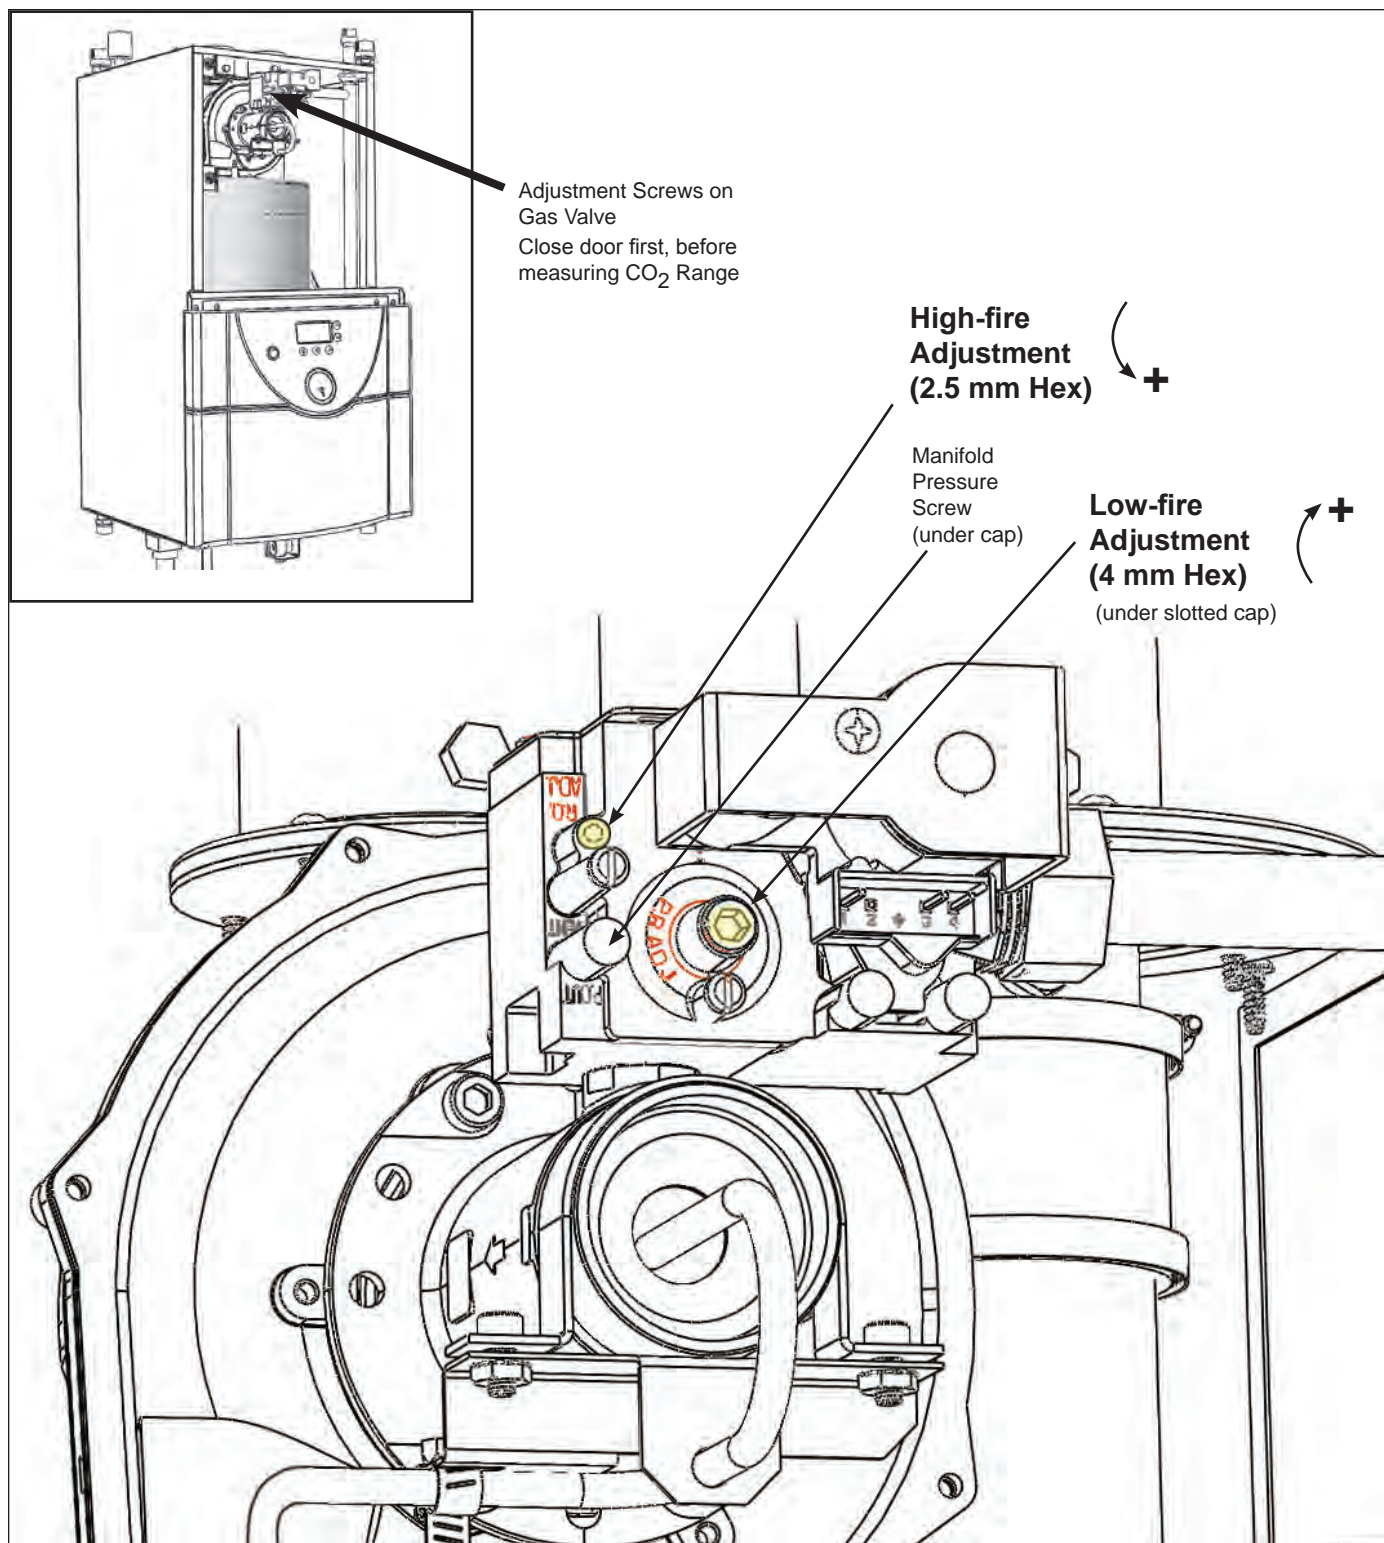

Figure 28. Adjustment Screws and Settings for CO₂
1. Measure the CO₂ in the flue products at high fire. The Mascot LX can be forced to high fire to allow for easier setup. Refer to **Section 8** for instructions on how to access the forced rate menu. The CO₂ readings should be between the range shown in **Table 17**. If the CO₂ is not within the range shown, adjustments may be made. To adjust the high fire CO₂, locate the high fire adjuster screw (**Figure 28**). **Using a 2.5 mm Hex wrench, slowly make adjustments in 1/16 of a revolution increments until the CO₂ is within the range identified.**
2. Measure the CO₂ in the flue products at low fire. Mascot LX can be forced to low fire to allow for easier setup. Refer to **Section 8** for instructions on how to access the forced rate menu. CO₂ readings should be between the range shown in **Table 17**. If the CO₂ is not within the range shown, adjustments may be made. To adjust the low fire CO₂, locate the low fire adjuster screw. **Using a 4 mm Hex wrench, slowly make adjustments in 1/16 of a revolution increments until the CO₂ is within the range identified.** (see **Figure 28**)
6. With a combustion analyzer, check CO₂ levels at both maximum and minimum input. Refer to sections **Figure 28** and **Table 17** of this manual for the proper adjusting procedures.